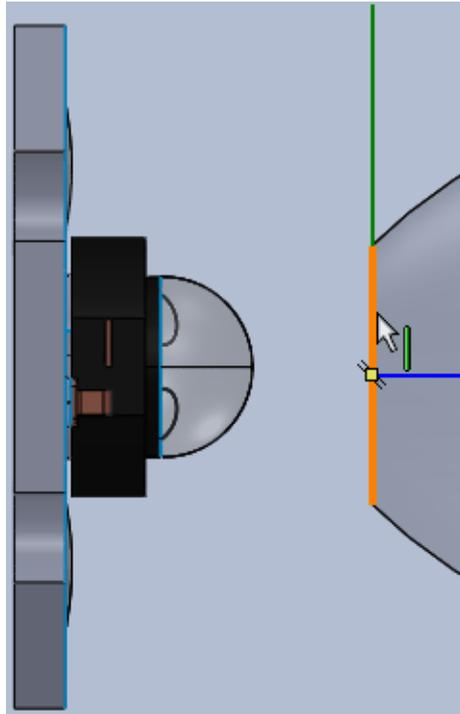
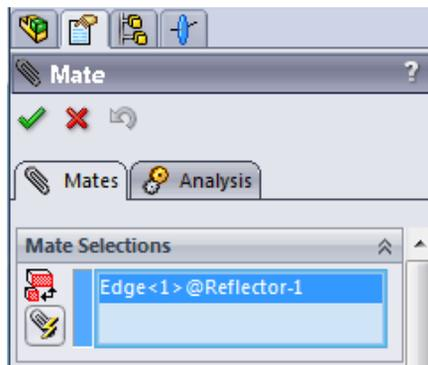

Figure 70 Edge of the reflector with orange highlight
Figure 71 Mate PropertyManager highlighting the first mate selection
- 3 Click the orange highlighted edge to select it as the first mate. See Figure 70 and Figure 71.